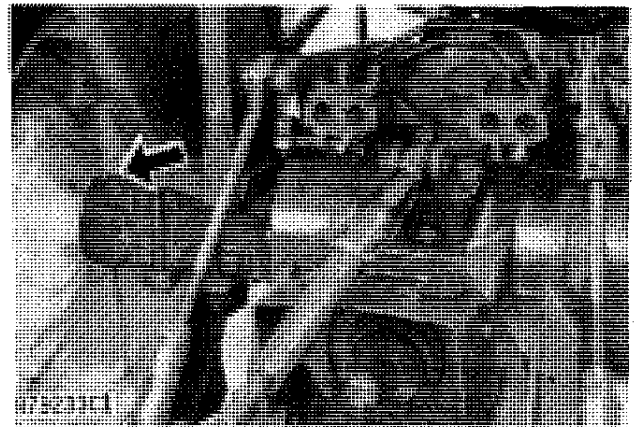

Fig. 2-Lubricating Rear Axle Bearings
2. Apply several shots of grease to rear axle bearings (Fig. 2).